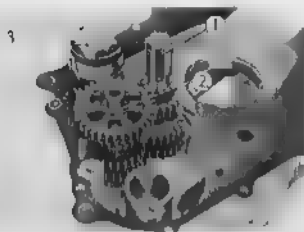

Fig. 3.97 Removing the gears
7. Remove the main shaft ①, counter shaft ② and the gear shift drum ③ from the left crank case as individual assemblies. (Fig. 3.97)